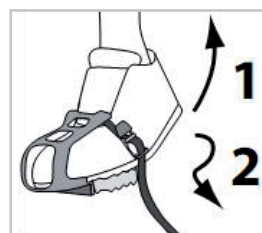

FIGURE 9
1. Put your foot into the pedal and tighten the safe belt upward to the right place as shown in Figure 9.